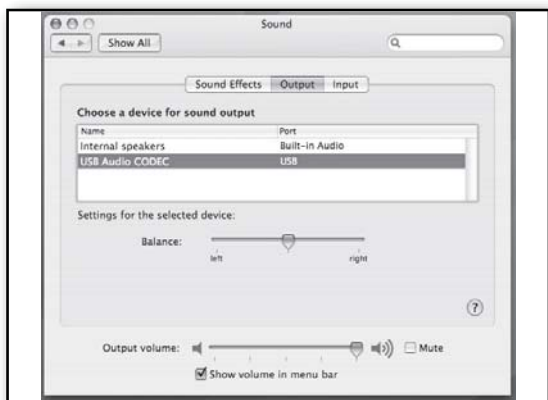

Figure 11
5. Next, click in the Output tab and select USB Audio Codec (figure 11). You may notice that the Volume slider sets itself to the full level. This will allow you to have full range using M Series' hardware MAIN Volume control.